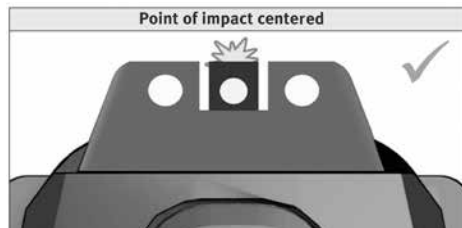
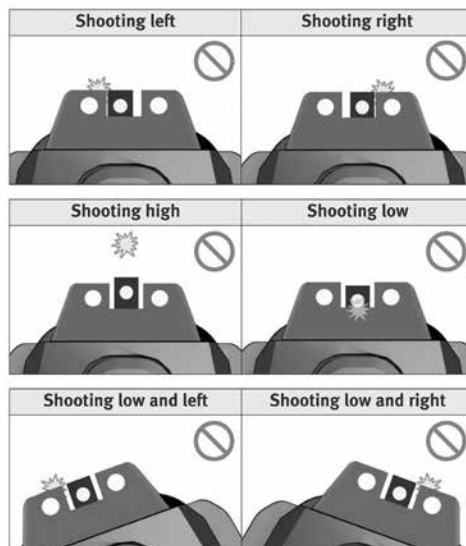

Figure 8 — Correct sight alignment
Figure 9 — Common sight alignment errors
The VP is equipped with a three dot sighting system, similar to those first introduced by HK on the P7 series pistol in the 1970s. The sights are adjustable for both windage (by drifting) and elevation (by replacement of the front sight). Sights are installed and aligned by HK technicians at the factory. Only an HK certified armorer should adjust or replace the VP sights. Figure 8 shows correct sight alignment, Figure 9 shows common sight errors.
1. Acquire the proper sight alignment and sight picture (see Figure 8).